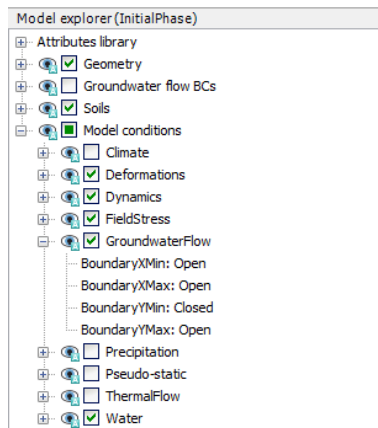

Figure 8.6 *GroundwaterFlow* boundary conditions in *Model explorer*
- Expand the *GroundWaterFlow* subtree. Note that by default the boundary at the bottom of the model is set to *Closed*. This is relevant for this example (Figure 8.6).